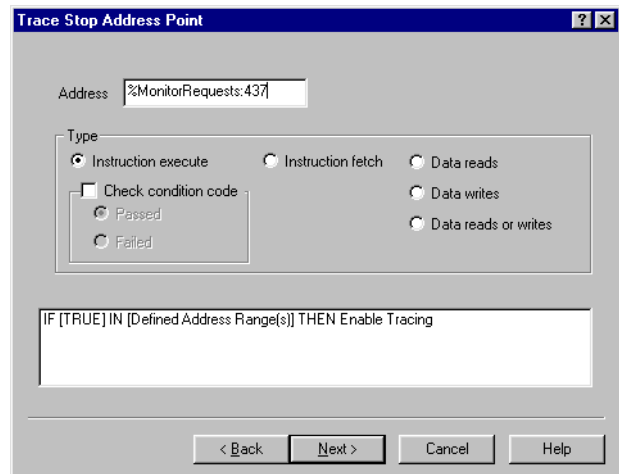

Figure 8-51 Trace Stop Address Point dialog box
9. Click on **Next>**. The Trace Stop Address Point dialog box shown in Figure 8-51 is displayed.